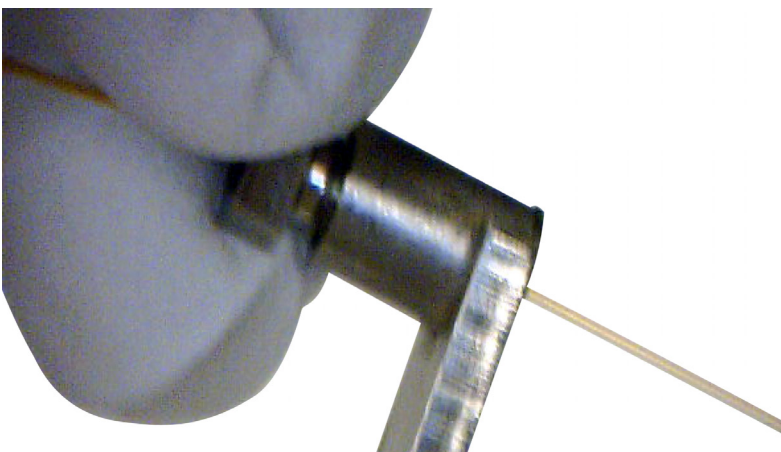

Figure 4 Thread the internal nut onto the swaging wrench
- 2 Thread the internal nut into the swaging wrench with the column protruding out of the back of the wrench (see Figure 4).